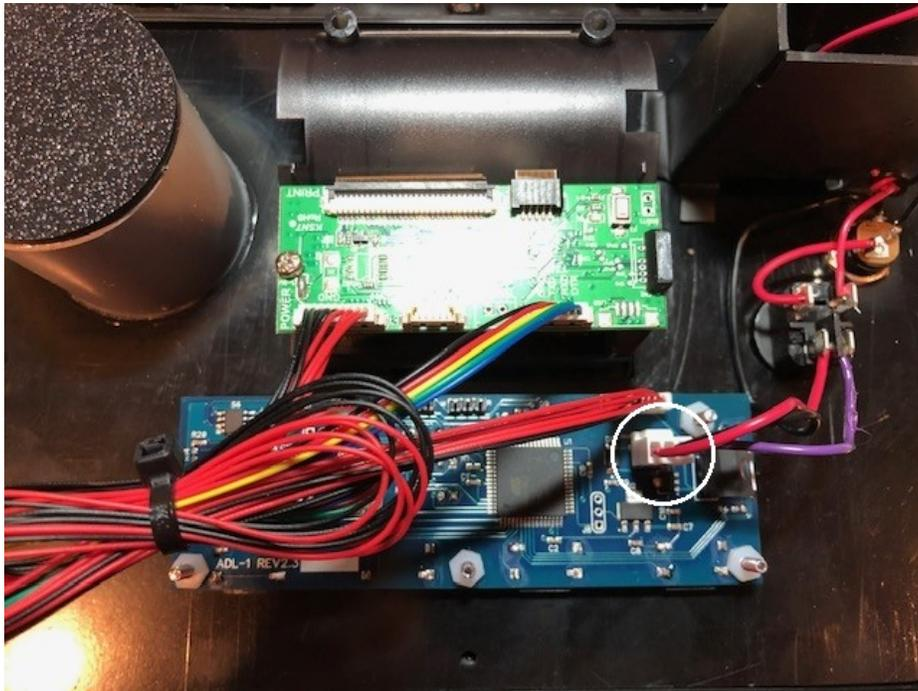

Fig 4
2. Remove power connector from circuit board. The power connector is a white rectangular connector with 3 wires, a purple, black, and red. (Fig 4)